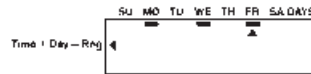

fig.15
6. Press **↑** to confirm, and the chosen day will be underlined. The regeneration will take place on the underlined days (fig. 15).